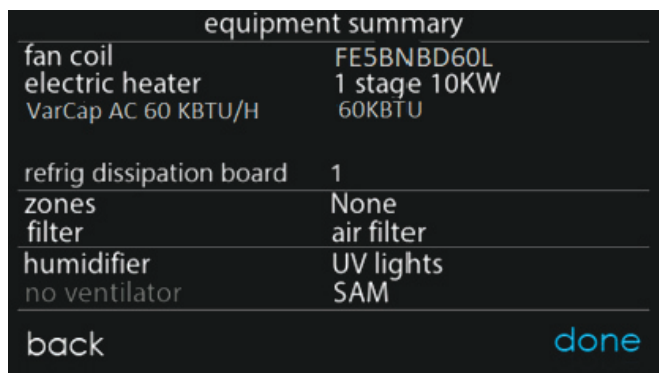

Fig. 12 – Equipment Summary Screen
4. The Evolution™ Connex™ System Control will then advance through the remaining learning processes including the setup of accessories such as filter type, UV light, and humidifier. Upon completion of the setup screens, the equipment summary screen will be presented (Fig. 12). Verify the correct equipment is shown on this screen. Next an airflow verification test is executed before returning to the main screen.